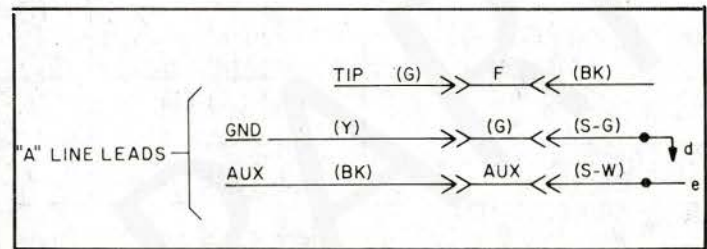

Fig. 4 - "A" Lead Control Wiring Diagram
4.05 For "A" lead control connections refer to Fig. 4. When the QSKE2500A is connected for "A" lead control an NE-D4BJ line cord must be used.